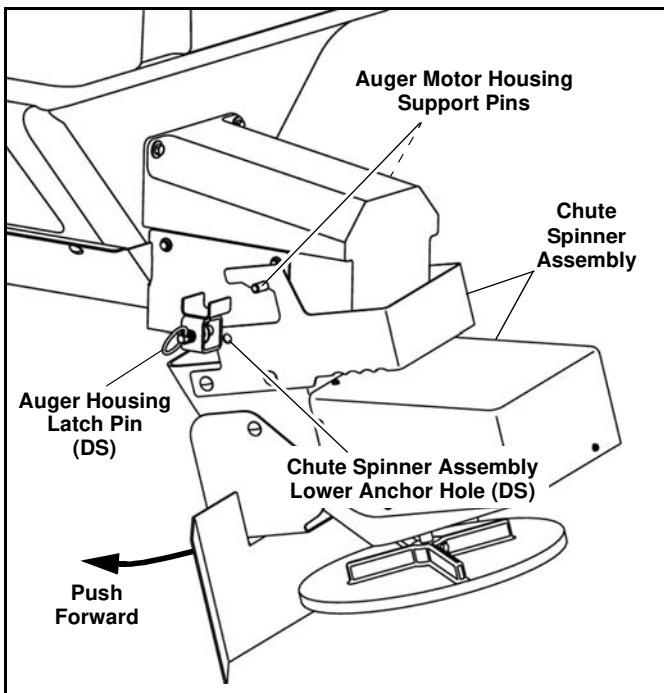

Figure 1-5
2. Position the chute spinner assembly on the auger housing support pins and push the bottom of the unit forward (See Figure 1-5).